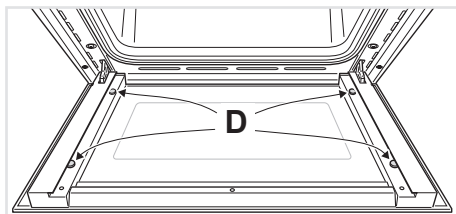

Fig. 7.20
- Check that the four rubber pads are in place ("D" in fig. 7.20).